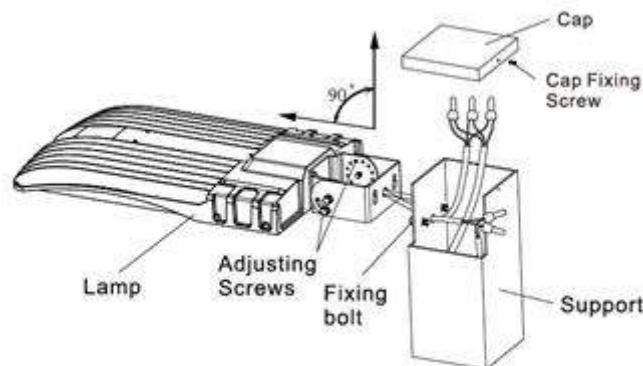

Figure 2-1
- a. Loosen cap fixing screw and take cap off. Loosen fixing bolt, fixed the fixture on the support and tighten fixing bolts. (Figure 2-1)
- b. Let the AC wire go through the support hole and connected correctly. Close cap and tighten cap fixing screw after AC cable is well placed in the support. (Figure 2-1)
- c. Loosen adjusting screws, align the fixture to required angle and fasten the screws. (Figure 2-1)